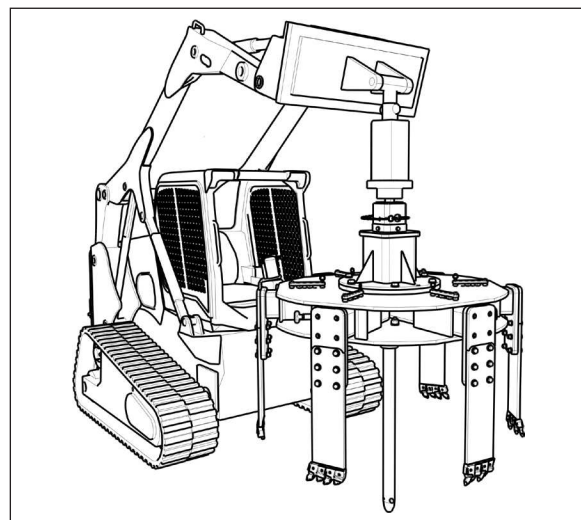

Figure 17. Cutter Attached To Skid Steer
18. Once the Six Shooter is securely attached to the Auger Drive on the skid steer loader, remove the Supporting Legs. [A-MM0118] See Figure 17.